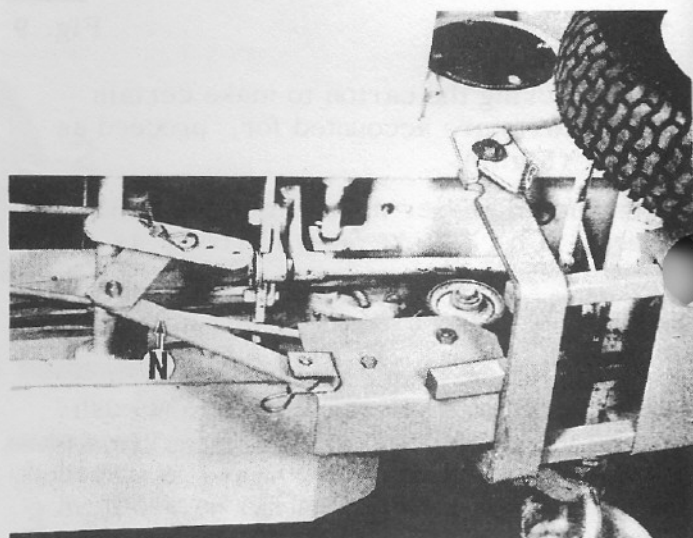

Fig. 19
Install lift push arm (N) as shown in (Fig 19). At time of hookup of lift push arm attachment, lift lever should be forward in "float" position.